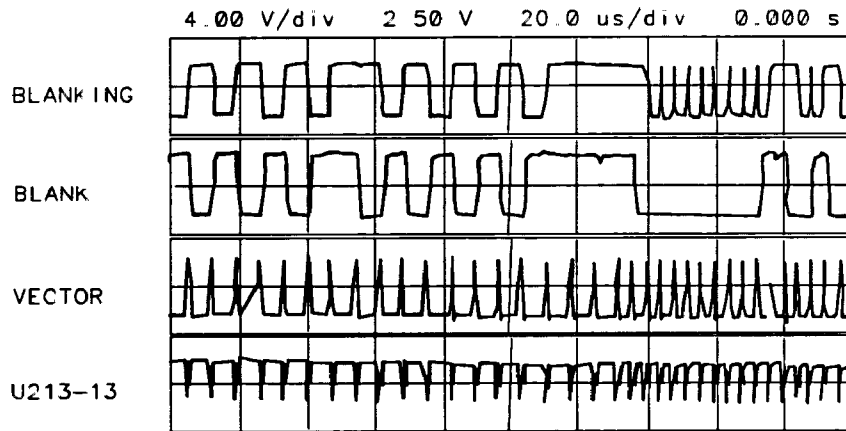

Figure 10-3. Blanking Waveforms
4. Compare the blanking-circuit input signals at the following test points with those illustrated in Figure 10-3.
5. The waveforms in Figure 10-3 must match the timing of the vectors being drawn. To do this, U215B is used to adjust the leading edge, and U215A is used to adjust the trailing edge. The first six horizontal divisions show the line drawing mode where the VECTOR pulses are 6 μs apart. The remaining divisions shows character mode (VECTOR pulses 3 μs apart). The BLANK pulses are synchronized to the VECTOR pulses by U214B. The fourth trace shows the double pulses which delay the leading and trailing edges of the blanking pulses.